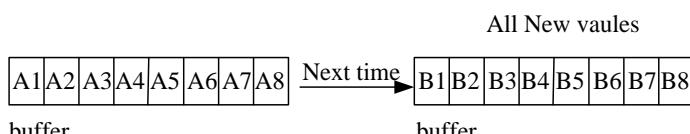

Figure 3-66
1. As an example, setting the **READING AVERAGE TIME** = 8 and **AVERAGE METHOD** = **FIXED**, the next sampling clears all of the old samples (A1 - A8) in the buffer and saves the new samples (B1 - B8), then averages them as shown in Figure 3-66.